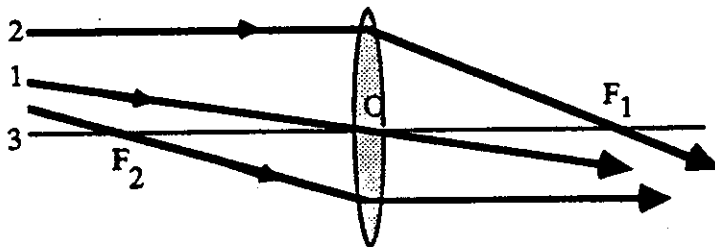
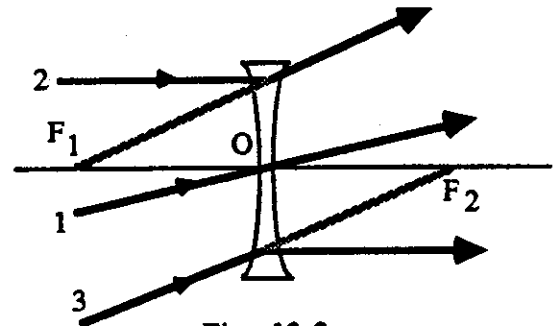
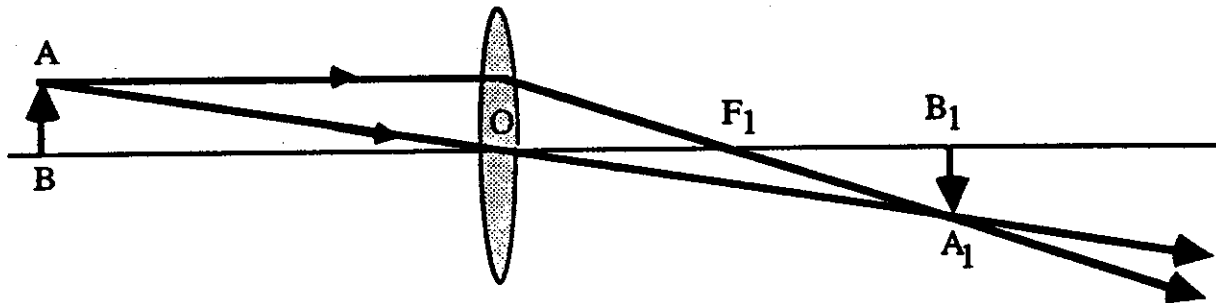
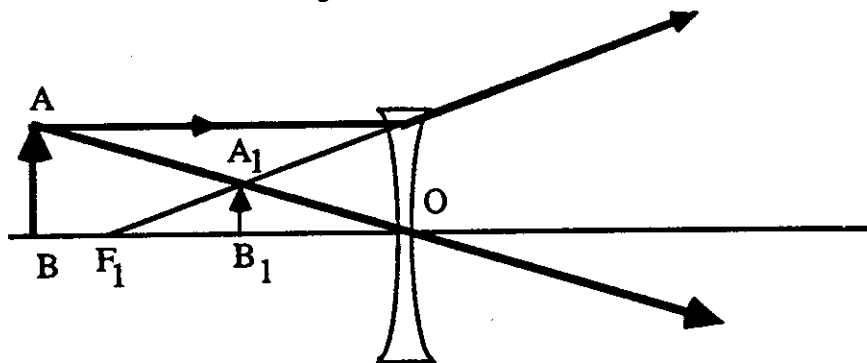

Fig. 13-1
Fig. 13-2
Fig. 13-3
Fig. 13-4
A lens (Figs. 13-1 and 13-2) consists of a refracting medium bounded by two spherical surfaces. A lens has two principal foci (F_1 and F_2). The line passing through F_1 and F_2 is known as the principal axis of the lens. Point O is called the optical center of the lens. The following rules define the optical center O , and, the two principal foci F_1 and F_2 :
- (1) An incident ray of light passing through the optical center is not deviated. (See rays marked 1 in the above figures.)
- (2) If an incident ray is parallel to the principal axis (rays marked 2 in the above figures), then the refracted ray passes through the first principal focus F_1 (as in Fig. 13-1) or appears to come from the first principal focus F_1 (as in Fig. 13-2).
- (3) If an incident ray passes through the second principal focus F_2 (as in Fig. 13-1) or is directed towards the second principal focus F_2 (as in Fig. 13-2), the refracted ray is parallel to the principal axis. (See rays marked 3 in Figs. 13-1 and 13-2.)
The above rules are used to draw ray diagrams and to locate the positions of images as shown in Figs. 13-3 and 13-4.
In Fig. 13-3, the rays starting from the point A (of the object AB) pass through the point A_1 after refraction through the lens. Thus the image A_1 which is formed by the actual intersection of the refracted rays, is the real image of the point A. Similarly, B_1 is the real image of point B.
In Fig. 13-4, the rays starting from the point A (of the object AB) appear to come from the point A_1 after refraction through the lens. Thus the image A_1 which is not formed by the actual intersection of the refracted rays, is the virtual image of the point A. Similarly, B_1 is the virtual image of point B.
The path of a ray is reversible. Thus if a real object is placed at B_1 (Fig. 13-3) a real image is obtained at B. Thus B and B_1 are known as conjugate foci. Similarly, if in Fig. 13-4, a virtual object is placed at B_1 , a real image will be formed at B. Thus B and B_1 are conjugate foci.
The distances which are actually traversed by the rays are taken to be positive and those which are not actually traversed by the rays are taken to be negative. Thus the focal length of a convex lens (in Fig. 13-1) and the object distances in Figs. 13-3 and 13-4 which are actually traversed by light rays are positive. The image distance (q) in Fig. 13-3 is also positive because the rays actually travel from the lens to the image A₁B₁. The focal length of the concave lens (Fig. 13-2) is negative and the image distance (q) in Fig. 13-4 is negative because the rays appear to come from the virtual image A₁B₁.